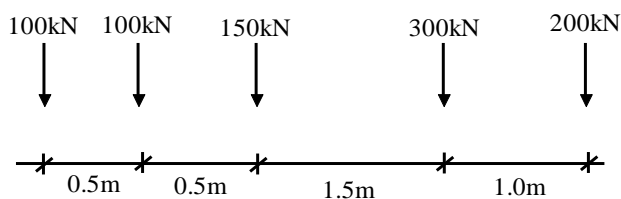

Fig. 3
3. Five rolling loads as shown in fig. 3. are crossing a simply supported beam of 15m span. Calculate 13